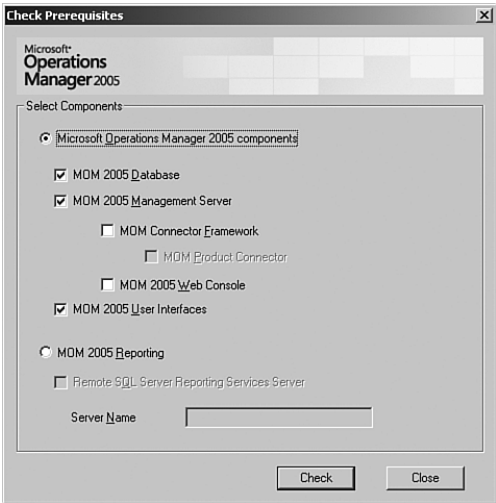

FIGURE 6.3 Check Prerequisites utility for MOM components.
2. Because we are planning a Typical installation of the MOM components and database onto a single server, select the first option on the Check Prerequisites screen, which is the Microsoft Operations Manager 2005 Components option and its subcomponents; then click Check to run the prerequisite checker, as shown in Figure 6.3. The MOM Connector Framework and MOM 2005 Web Console are not required components, and because we are not installing them at this time these items are not selected.